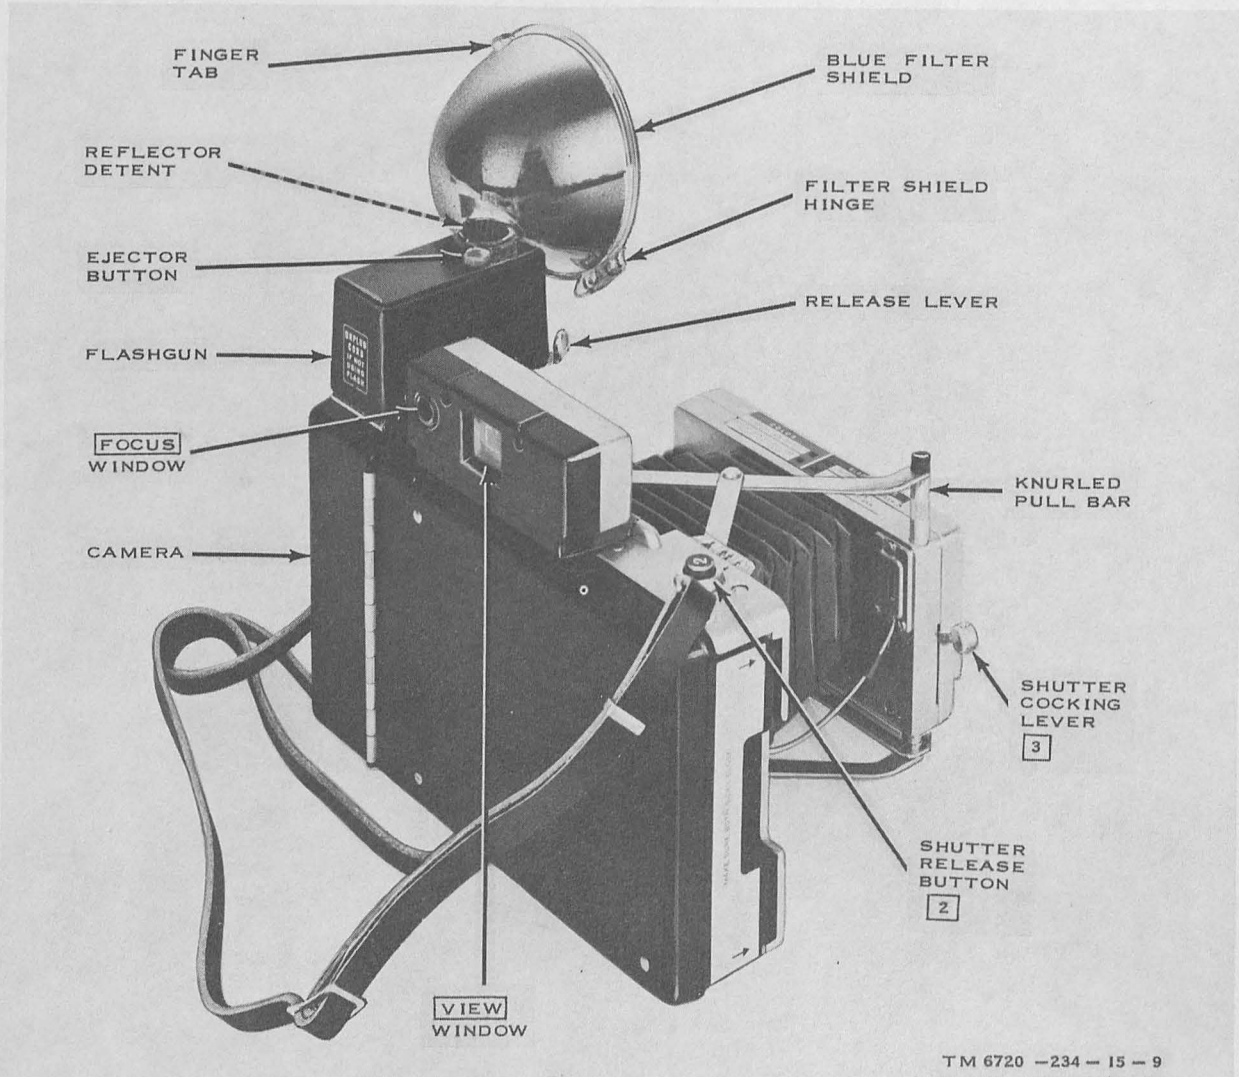

Figure 1-9. Camera, with flashgun mounted in place.
The reflector assembly is attached to the battery case and can be swiveled for bounce flash. A hinged blue filter shield is mounted at the front of the reflector assembly. A release lever facilitates mounting the flashgun on and removing it from the camera (fig. 1-9). The flashgun accepts Type M3 photoflash lamps and is equipped with an ejector button which permits expended photoflash lamps to be ejected automatically.
If it is determined that photoflash photography is to be used, attach the flashgun (fig. 1-9) to the camera as follows:
- (1) Hold the camera horizontally, and sight the subject through the FOCUS window (fig. 1-9).
- (2) Center the bright spot (seen in the FOCUS window) on any vertical object in the center of the area of most interest.